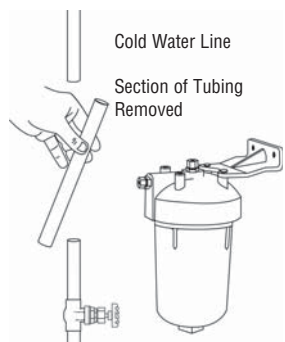

Figure 6
6. Cut the cold water tube. Place a pan under tube to catch any water that may be present. (Figure 6)